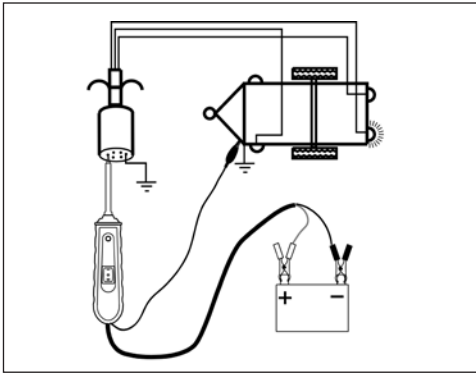

Fig.5
6.5 Testing Trailer Lights and Connections (Fig.5)